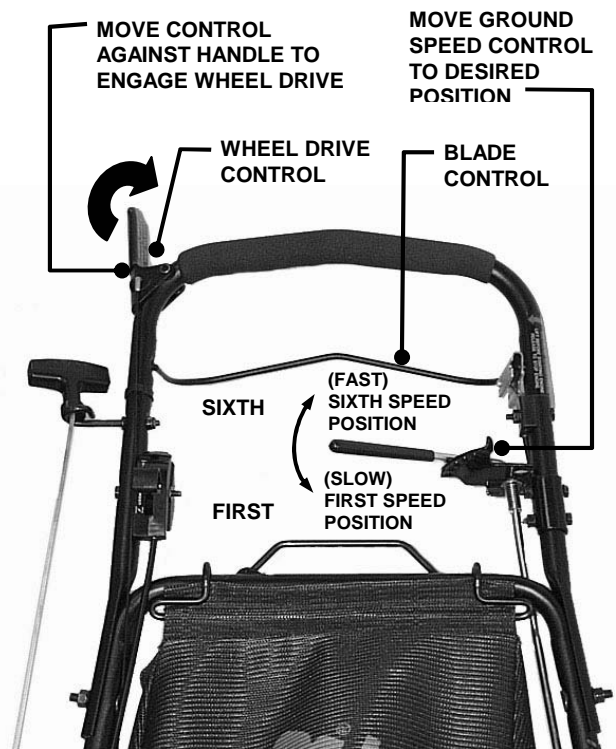

FIGURE 2.6
1. Move ground speed control to the desired speed position. See Figure 2.6.
2. Move wheel drive control against handle to engage wheel drive and propel mower forward. Forward speed can be adjusted while the mower is moving by changing position of the ground speed control. See Figure 2.6.